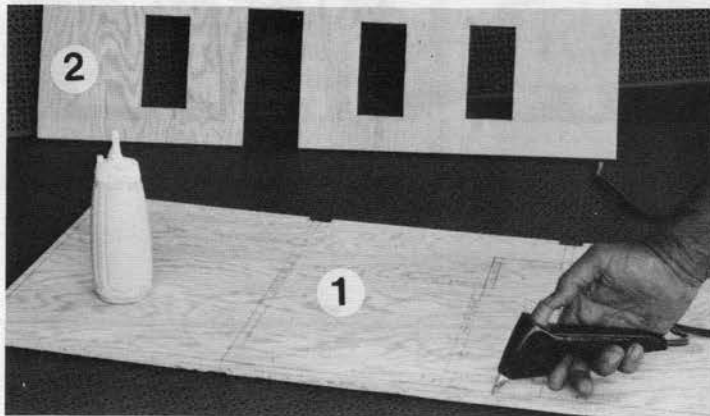

Fig. 1
STEP 1: Mark all wall locations on part 1 (First floor). Using the combination glue method as described in the basic wood working section, assemble Part 2 to Part 1. (FIGURE 1) The hot glue is being applied.